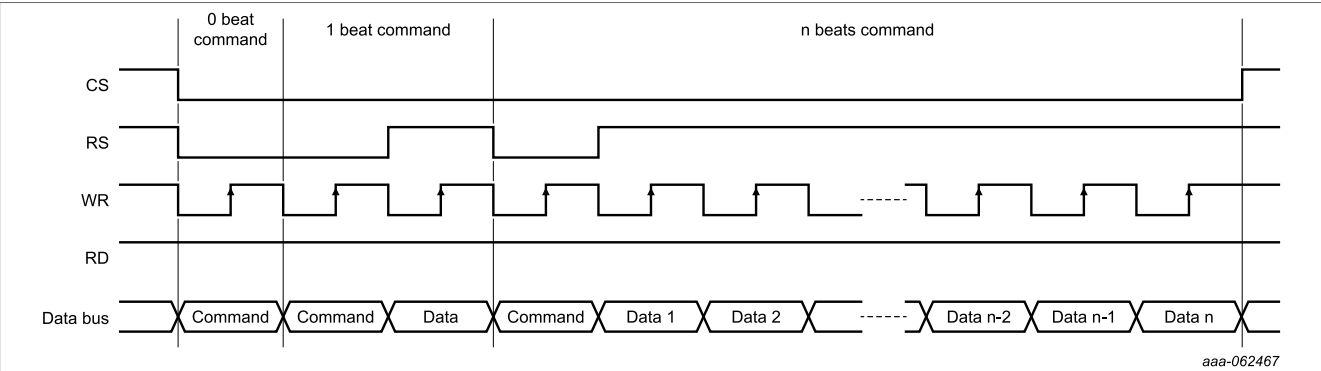

Figure 4. 8080 bus writing sequence diagram
The 8080 parallel interface used for LCD modules consists of 8 or 16 bidirectional data lines (data bus), 1 chip-select line (CS), 1 writing-latch line (WR), 1 reading-latch line (RD), and 1 data/command-select line (RS). The CS, WR, RD, and RS are all low-level active. A low level of the CS selects the slave device. The rising edge of the WR line is a data write latch signal (clock). The rising edge of the RD line is a data read latch signal (clock). The RD must be high-level when a writing sequence is in progress. Similarly, the WR must be high-level when a reading sequence is in progress. The RS is a data/command select signal. A low level of the RS indicates the command (or address) transfers. A high level of the RS indicates data transfers. The RS is also known as DC or ALE (Address Latch Enable). At the beginning of a writing/reading transfer, a command/address-writing sequence specifies the target address. The data transfers can be 1 or more beats. Figure 4 shows the writing sequence. A data transfer occurs during the writing sequence under a 0-beat command type.